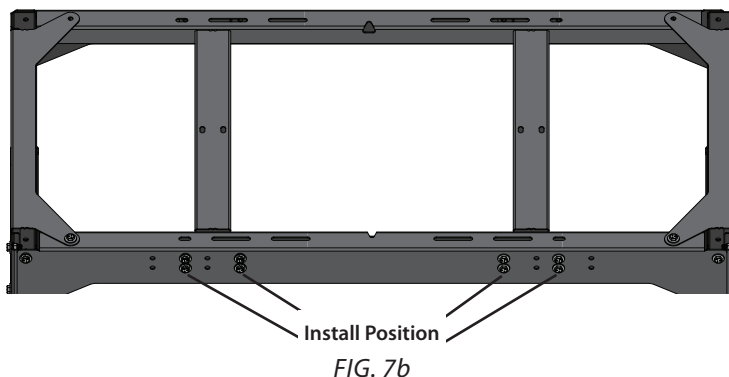

FIG. 7b
If you are installing a 23" Cyclone, attach the two Cyclone Supports (F) underneath the two Long Braces (C) at the top of the Stand and align its holes with the inside pair of bolt holes [FIG. 7b] before securing in place with eight Bolts (D2), eight Washers (D3), and eight Whiz-Nuts (D4) for each Cyclone Support.